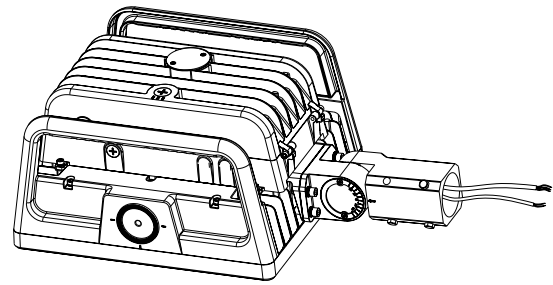

Figure 3
- Install the bracket on the fixture (Figure 3).